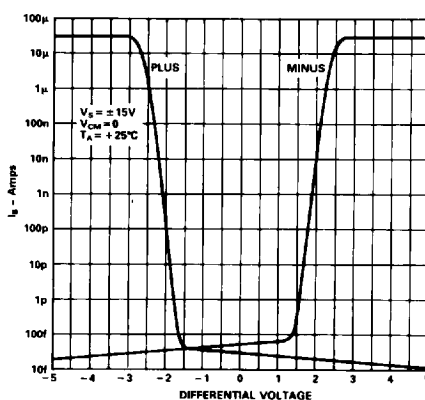

Figure 8. Input Bias Current vs. Differential Input Voltage
4. Figure 8 shows the AD545A's input currents versus differential input voltage. Input current at either terminal stays below a few hundred fA until one input terminal is forced higher than 1V to 1.5V above the other terminal. Input current limits at 30μA under these conditions.